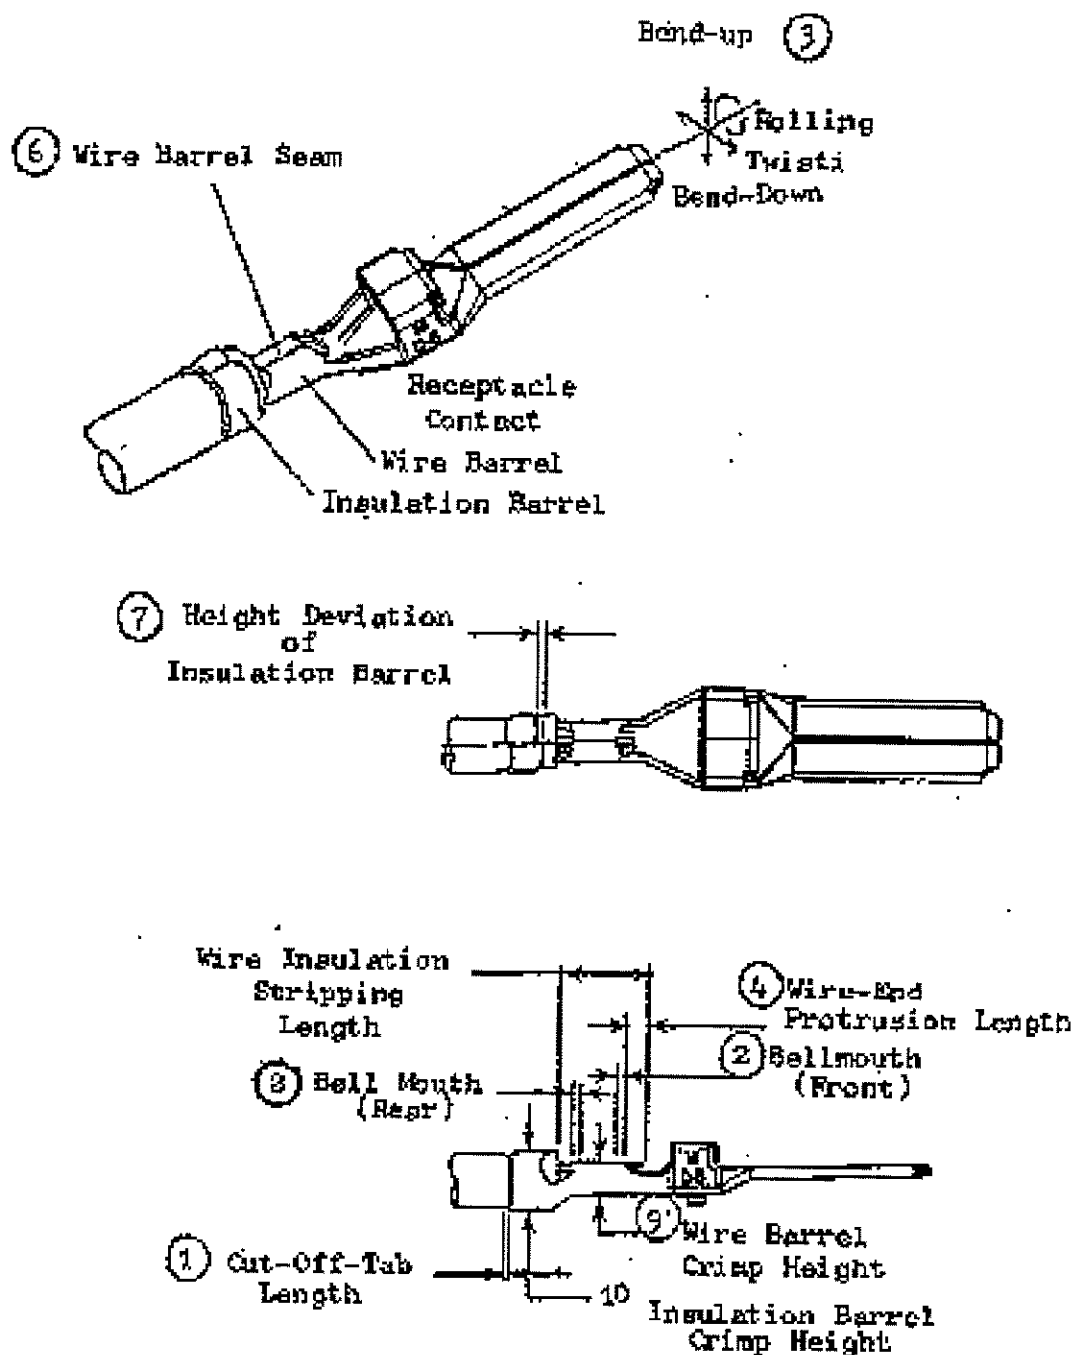

Fig. 1
1. Tolerance of wire barrel crimp height to be within $\pm 0.05\text{mm}$. Fig 1 (9).